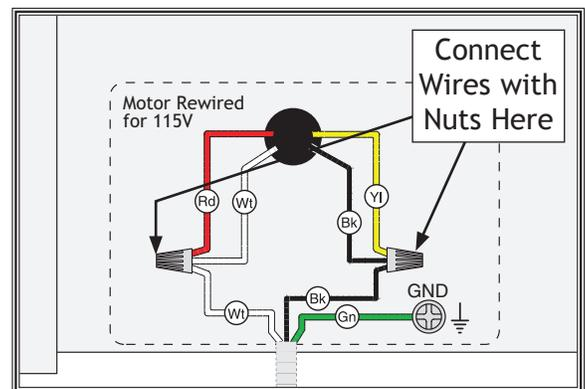

Figure 8. Motor rewired to 115V.
4. Use wire nuts to connect wires as indicated in **Figure 8**. Twist wire nuts onto their respective wires and wrap them with electrical tape so they will not come loose.